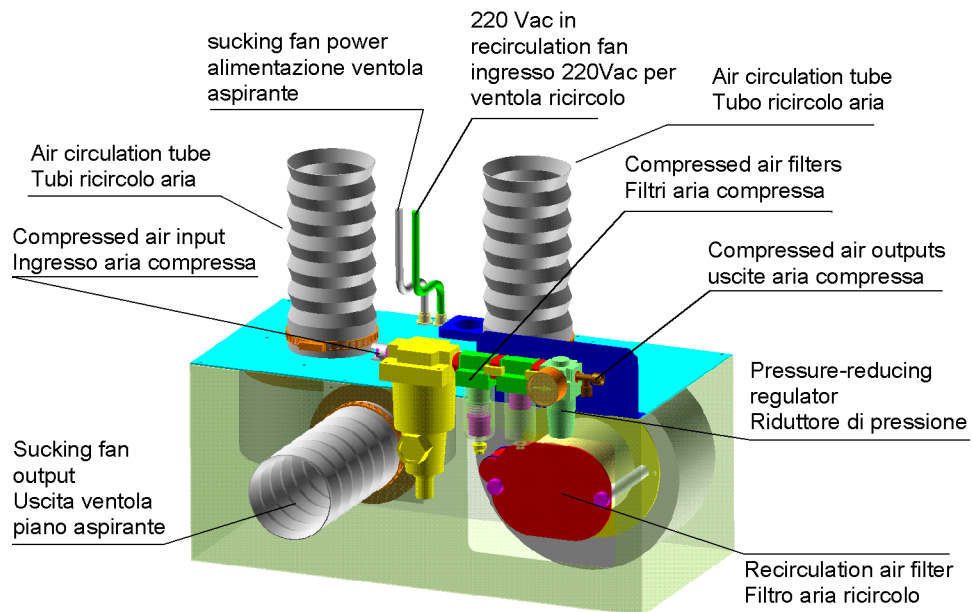

Fig.8 - Fan group
- The fan group, shown in fig. 8 on page 17.
Change now to the connection of the fans and filter box shown on fig. 8 on page 17. Connect the plug labeled **VACUUM FAN** to the corresponding socket coming from the printing section.
1. **The manometer pressure indication has to stay between 1.8 and 2 bar (fig. 8 on page 17).**